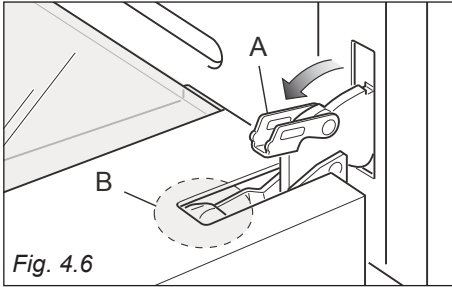
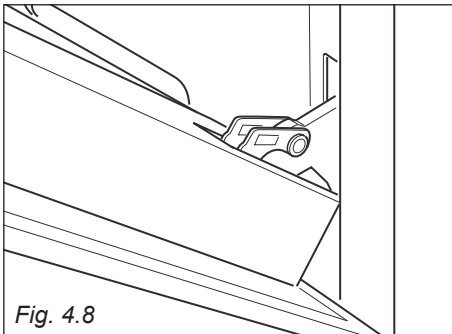

Fig. 4.6
Fig. 4.8
- Open the lever "A" completely on the left and right hinges (fig. 4.6).
- Gently close the door (fig. 4.8) until left and right hinge levers "A" are hooked to part "B" of the door (fig. 4.6).